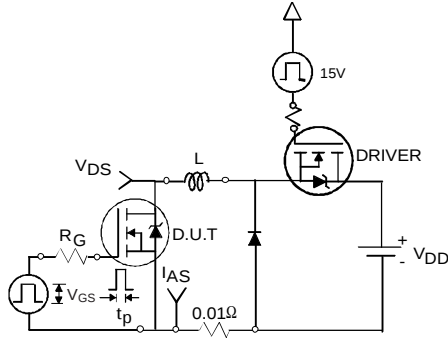

Fig 12a. Unclamped Inductive Test Circuit
- ③ Pulse width $\leq 1.0ms$; duty cycle $\leq 2\%$.
- ④ $C_{oss \text{ eff.}}$ is a fixed capacitance that gives the same charging time as C_{oss} while V_{DS} is rising from 0 to 80% V_{DSS} .
- ⑤ Limited by T_{Jmax} , see Fig.12a, 12b, 15, 16 for typical repetitive avalanche performance.
- ⑥ This value determined from sample failure population. 100% tested to this value in production.
- ⑦ When mounted on 1 inch square copper board.
- ⑧ When mounted on FR-4 board using minimum recommended footprint.
3. Equation below based on circuit and waveforms shown in Figures 12a, 12b.